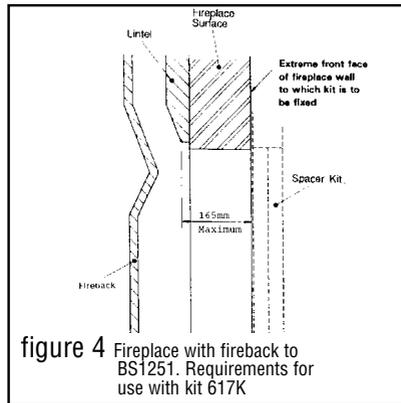

figure 4 Fireplace with fireback to BS1251. Requirements for use with kit 617K
2.3.2 Into a fireplace that has a fireback of nominal size 400mm or 450mm and conforming to BS1251. The distance from the front face of the flueway opening in the lintel (or equivalent) to the extreme front face of the fireplace including all surfacings must be no more than the distance shown in figure 4. If this maximum is exceeded poor clearance of combustion products could result.